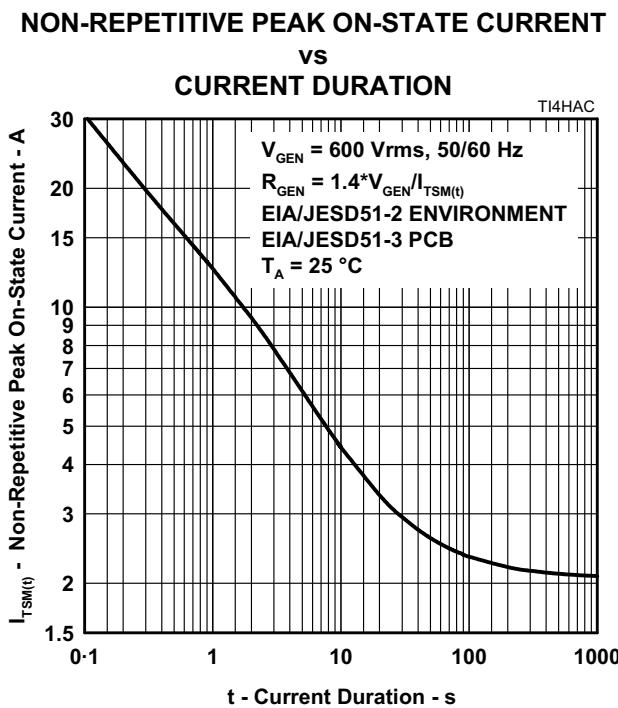

Figure 5.
4. EIA/JESD51-2 environment and EIA/JESD51-3 PCB with standard footprint dimensions connected with 5 A rated printed wiring track widths. See Figure 5 for the current ratings at other durations. Derate current values at $-0.61\%/\text{ }^\circ\text{C}$ for ambient temperatures above 25°C .